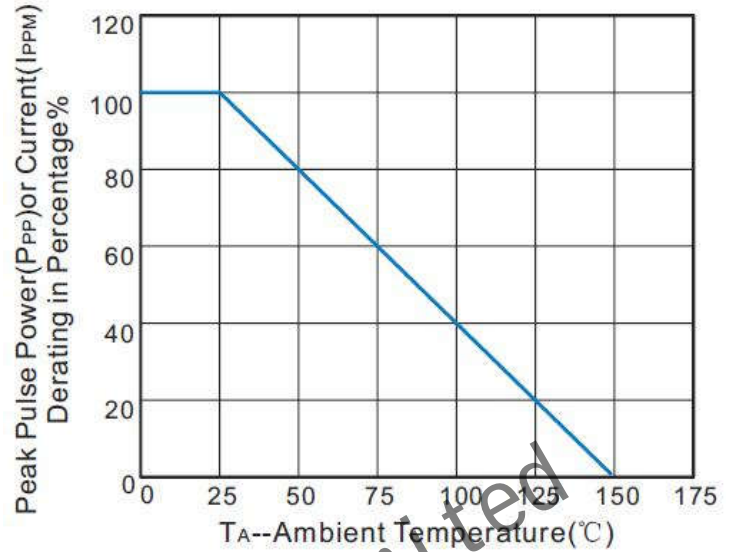
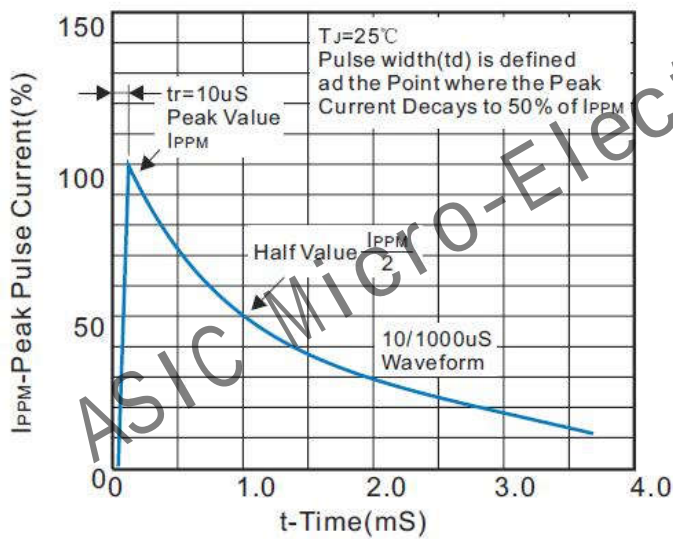

Fig.2 Pulse Derating Curve
Fig.3 Pulse Waveform
1. Non-repetitive current pulse, per Fig.3 and derated above T_A=25°C per Fig.2.